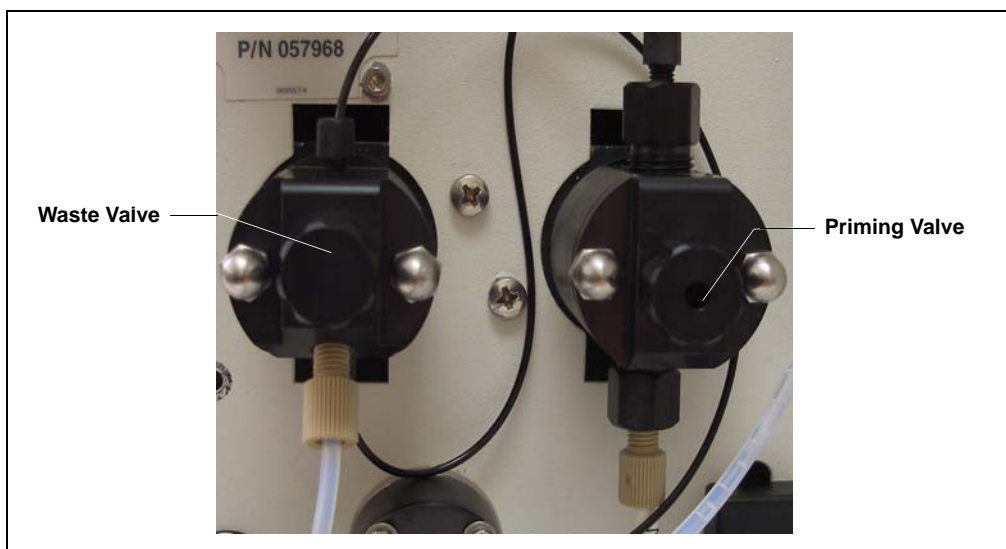

Figure 5-16. Waste and Priming Valves
1. Rinse the pump flow path with deionized water. Direct the flow to waste by opening the waste valve on the secondary pump head (see Figure 5-16). To open the valve, turn the knob one-quarter to one-half turn counterclockwise.
3. To remove the waste valve or priming valve from the pump head (see Figure 5-16), turn the knob counterclockwise until it is loose, and then pull the knob straight out of the cavity in the pump head.